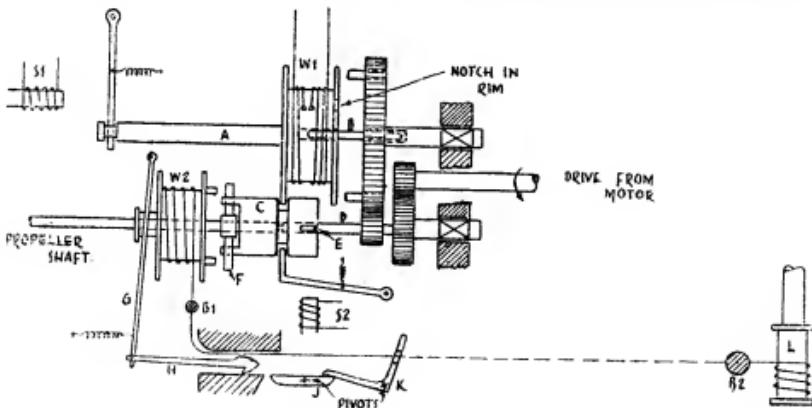

Fig. 8
Except for solenoids which control the rudder, all other functions are controlled by the 6-volt electric motor mentioned earlier. With the assistance of switching devices, gearing and other gadgets, it drives the propeller forward or in reverse, drives the winch for pulling in or letting out the main sheets, and provides the power for the reefing of the mainsails. Having cut away as much of the casing of the original windscreens wiper as possible, and removed the reciprocating parts, I was left with a final drive to a gear wheel of about $1\frac{1}{2}$ in. diameter *via* one of about $\frac{3}{8}$ in. diameter. Into the larger of these two I drilled a central hole to take the spindle of the mainsail winch, and into the smaller I drilled and tapped a central hole into which I screwed and soldered a short shaft which starts off the propeller drive. The general layout is shown diagrammatically in Fig. 8, though the relative positions and sizes of certain parts have had to be changed for the sake of clarity. The diagram is drawn with the drive on "power," this position having been achieved by temporarily energising the switch S_1 , whose armature provides the bearing at one end for the shaft (A) which is fixed to the mainsail winch (W); the bearing for the other end being the short rod (B) mentioned above which runs free in holes drilled into the winch shaft and the large gear wheel shaft.
The arrangements for reefing the sails probably caused me more trouble and unprofitable work than any other bit of the boat. My original idea was for the mast to wind up a spring when the sail was set, which would be released when I wanted to furl the sail. In the end, however, I decided to use the motor to do the job automatically whenever I went over from "sail" to "power." A tricky problem then arose ; the requirement was that when the sail was pulled out to its full extent—in fact, at the moment when it reached full extension—a clutch would engage so that when the propeller shaft next turned, it would revolve a winch to turn the mast until the sail was fully reefed, and then disengage itself, but be ready to function again should the sail be reset. I tried and made all sorts of devices, many of which failed because they relied on the relative strengths of several springs, systems which I found were almost impossible to adjust. I finally adopted the one illustrated in Fig. 8, which does work very well. The vital bits in this are two ordinary glass beads of different sizes (B_1 and B_2) kindly supplied from stock by my daughter. The winch W_2 runs freely on the propeller shaft and has on its inner face a series of bosses which can engage with the arms of collar F to lock the winch to the propeller shaft when necessary. To its outer face is fixed a collar which engages in a fork-shaped lever G, pivoted at one end and having a spring tending to disengage the winch from the propeller shaft collar F. Pivoted to the other end of lever G is a further lever H with a double hook at its far end which travels in a fixed rectangular-shaped "tunnel" as shown.